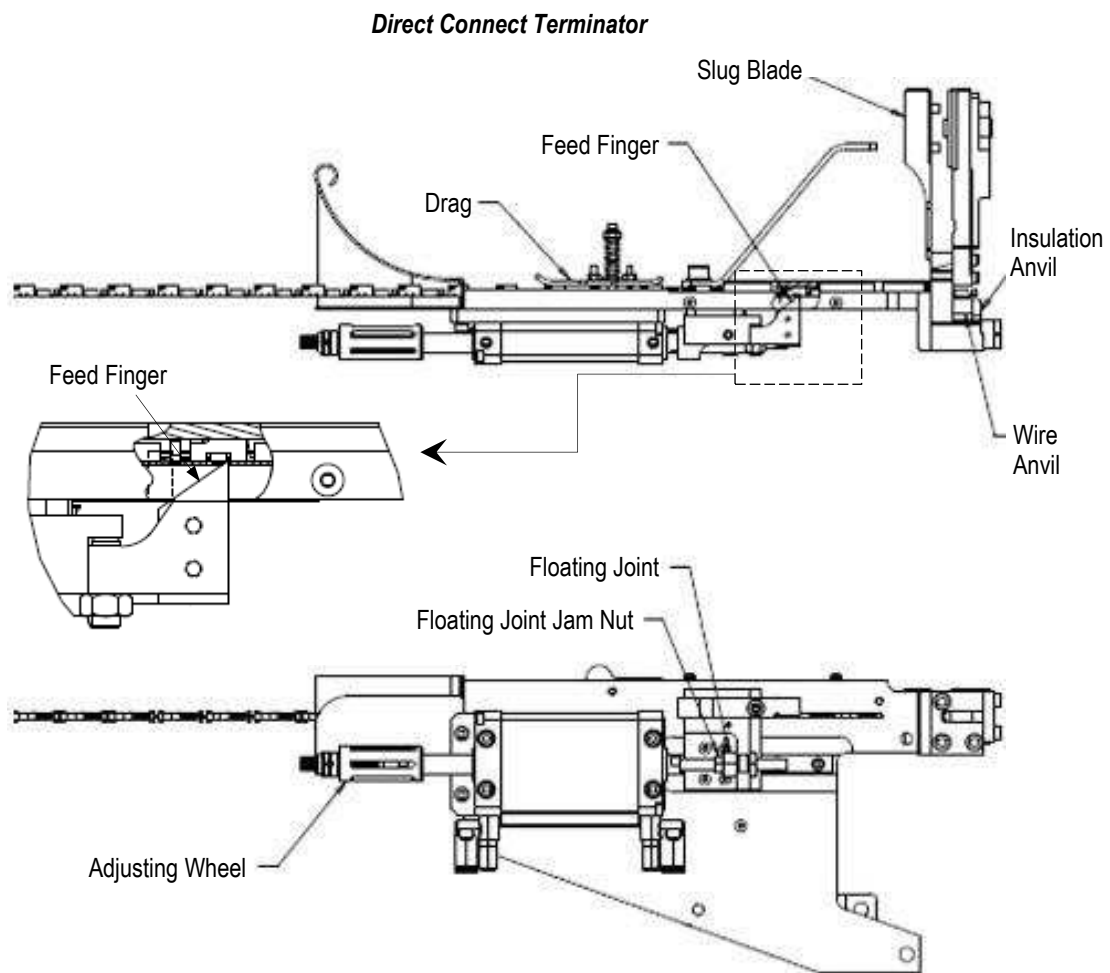

Figure 21
3. Push the terminal strip forward to ensure that the terminals “click” past the feed finger, and then pull back on the terminal strip to ensure that the feed finger engages the terminal strip firmly (see Figure 21).